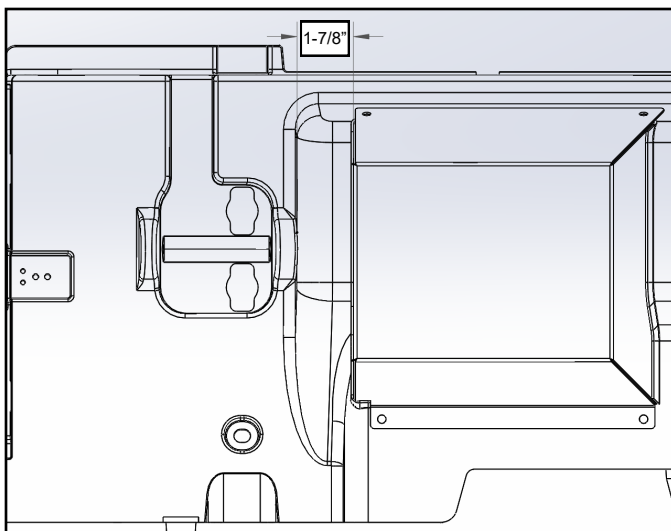

Fig. 2.6 (Rework Rear Seat Cover, Drill)
- 2.6** Locate the alternator cover found in item 1ACKAPDXTALTCLR. Place Alternator Cover (1-7/8") from the edge of the seat cover as shown in Fig 2.6. Using the (4) holes on the cover as reference, mark and drill the holes thru the plastic cover.